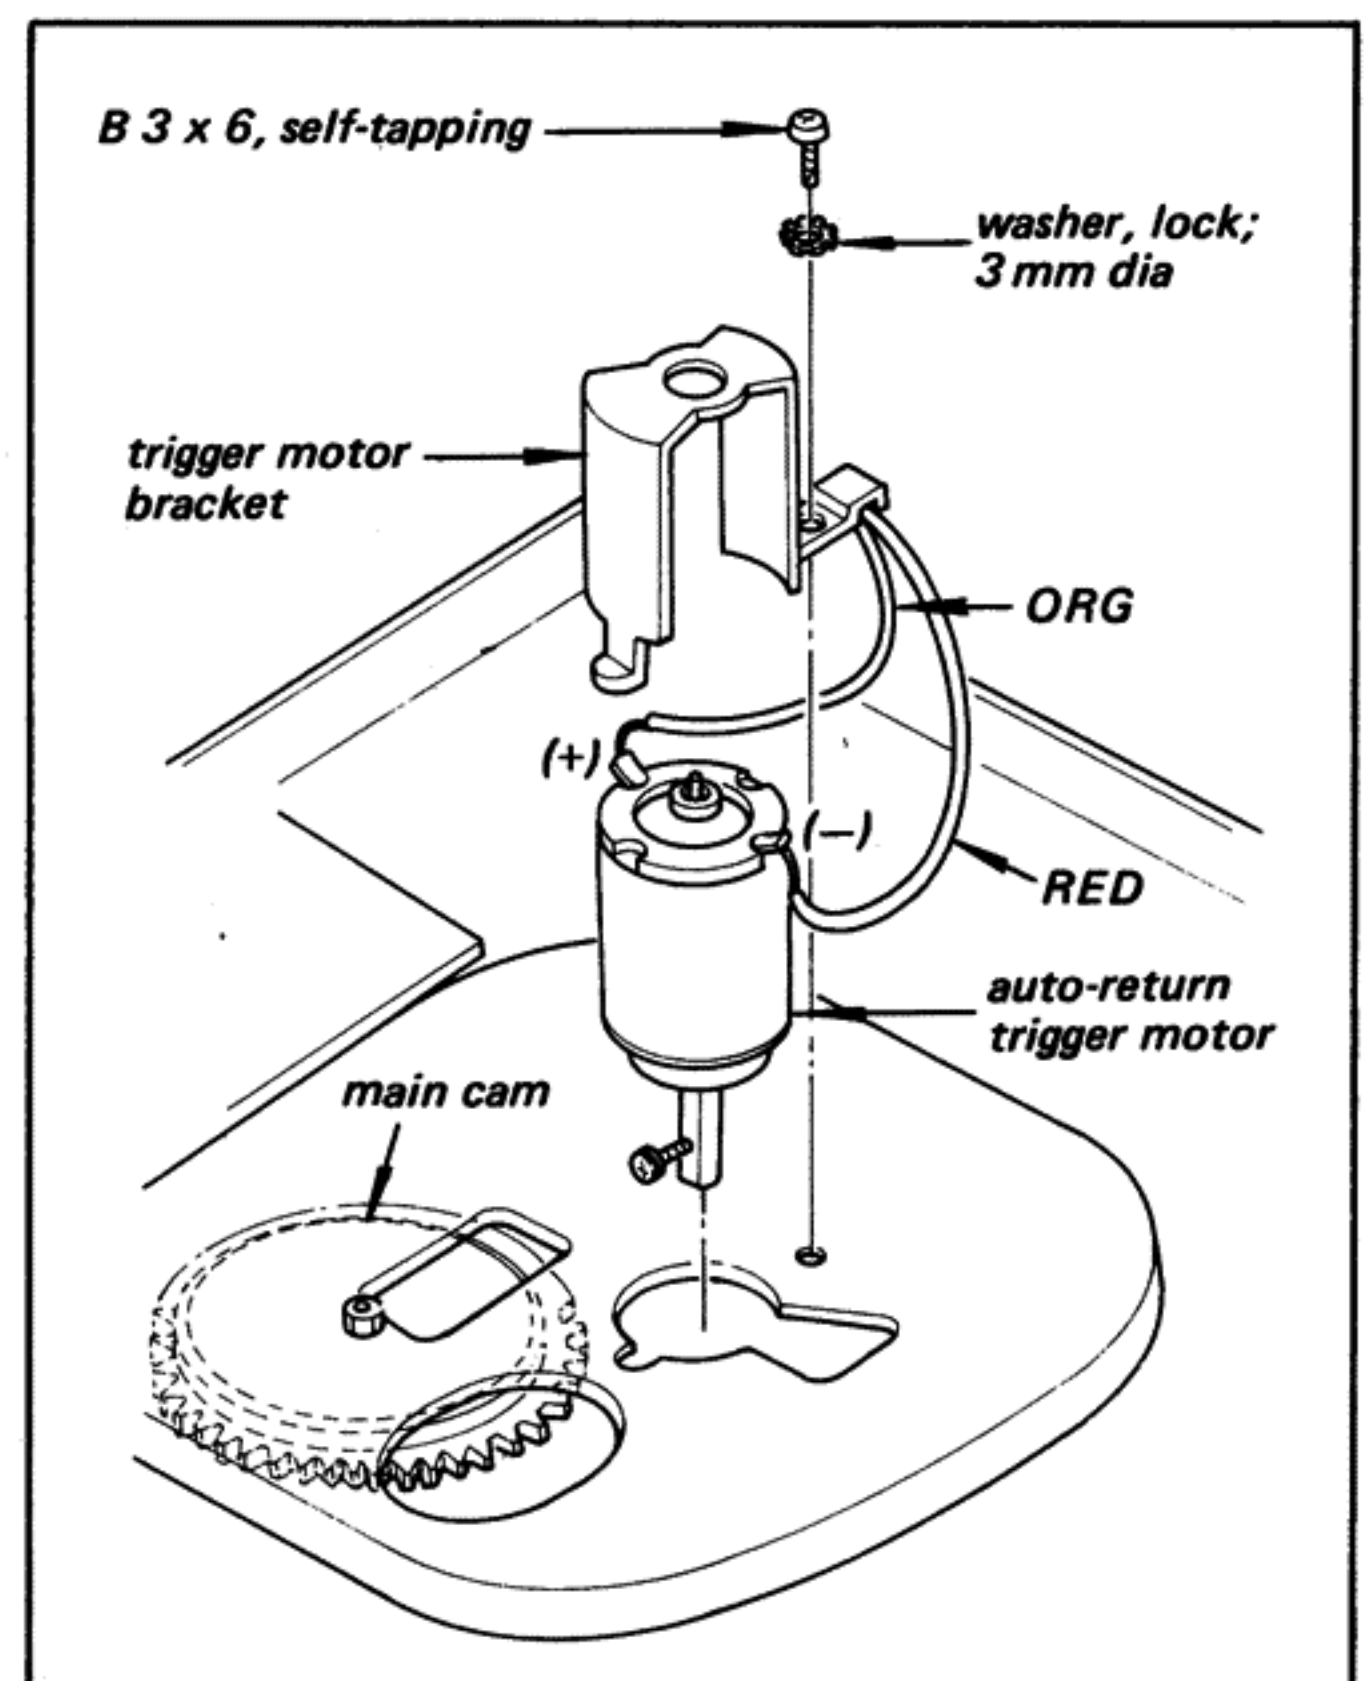

Fig. 2-11. Auto-return trigger motor replacement
3. Unsolder the two lead wires at the terminals of the motor as shown in Fig. 2-11.
4. Remove the trigger motor bracket by removing the screw (B 3 x 6, self-tapping) shown in Fig. 2-11. This frees the motor.
6. When installing the motor, be careful to the polarity of the motor as shown in Fig. 2-11.